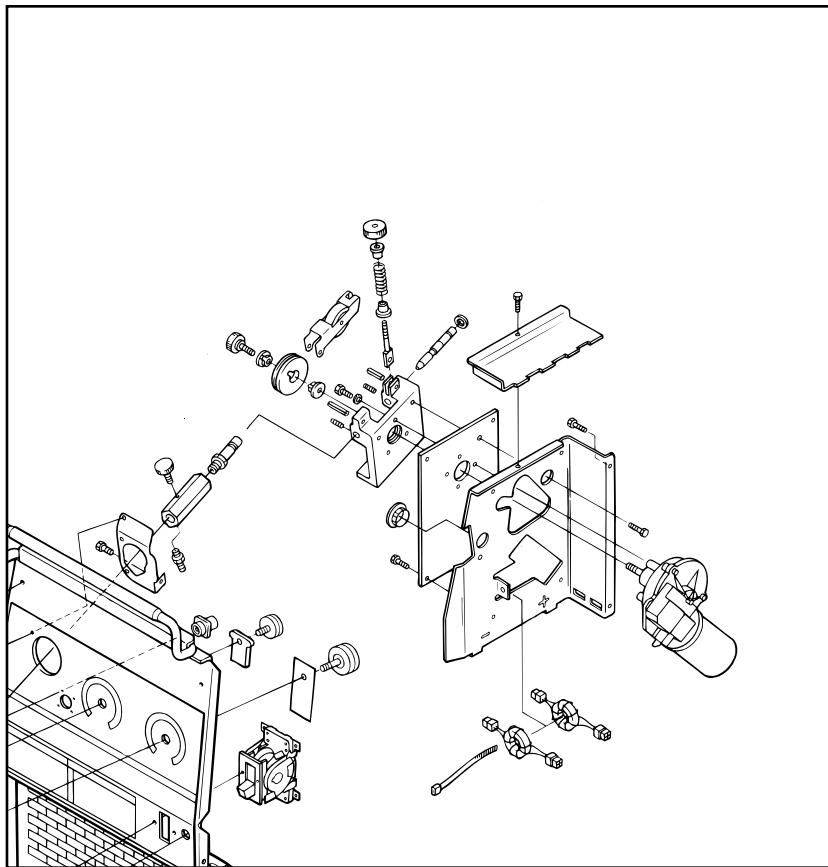

FIGURE F.11 - Wire Drive Assembly Removal
5. Remove the drive roll. See Figure F.11.
6. Remove the screw holding the gun connector assembly to the Case Front Panel. See Figure F.11.